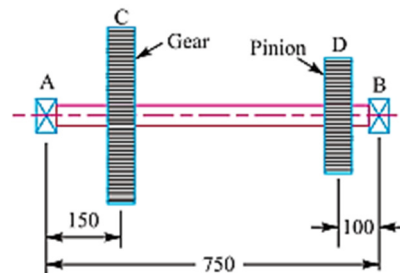

Figure 4
- OR iii. A steel solid shaft transmitting 15 kW at 200 r.p.m. is supported on two bearings 750 mm apart and has two gears keyed to it as shown in figure 4. The pinion having 30 teeth of 5 mm module is located 100 mm to the left of the right hand bearing and delivers power horizontally to the right. The gear having 100 teeth of 5 mm module is located 150 mm to the right of the left hand bearing and receives power in a vertical direction from below. Using an allowable stress of 54 MPa in shear, determine the diameter of the shaft. All dimensions are in mm.